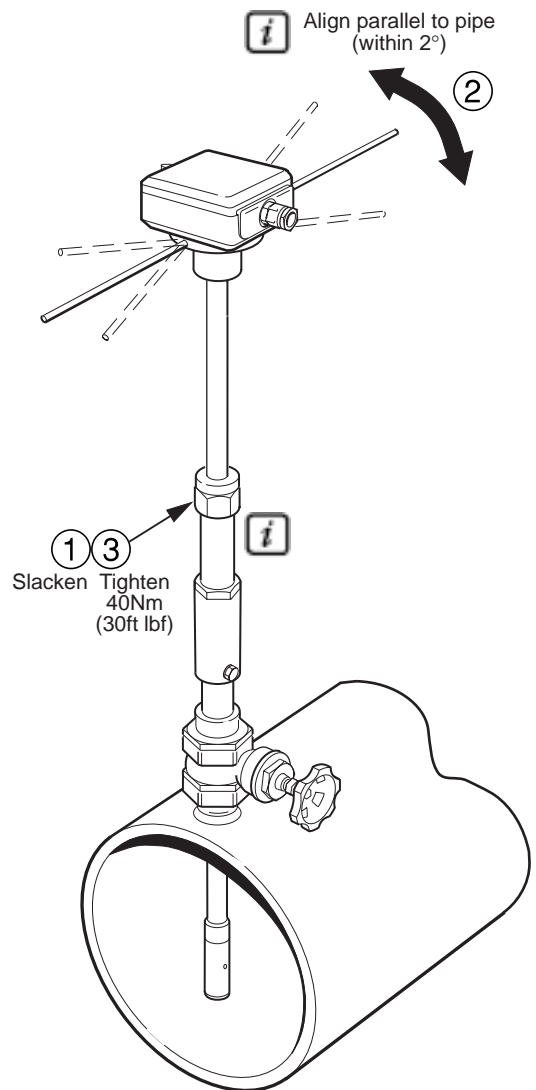

Fig. 3.15 Probe Alignment
3.7 AquaProbe Alignment – Fig. 3.15